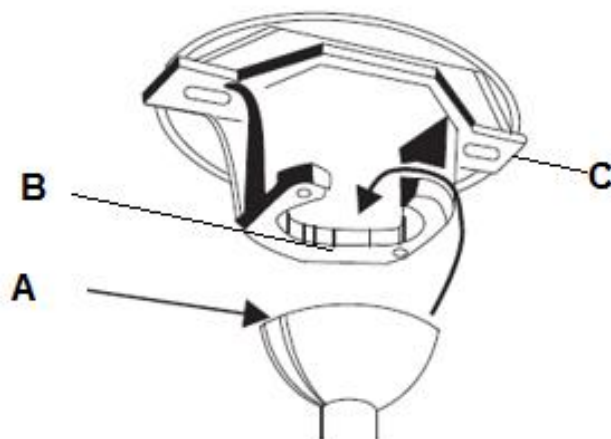

Fig. 10
HANGING OF THE FAN (Fig.10)
Lift the fan assembly onto the mounting bracket. Ensure the key slot (A) of the hanger ball is positioned on the key pin (B) of the mounting bracket (C) to prevent the fan from rotating when in operation. **Fig.10**